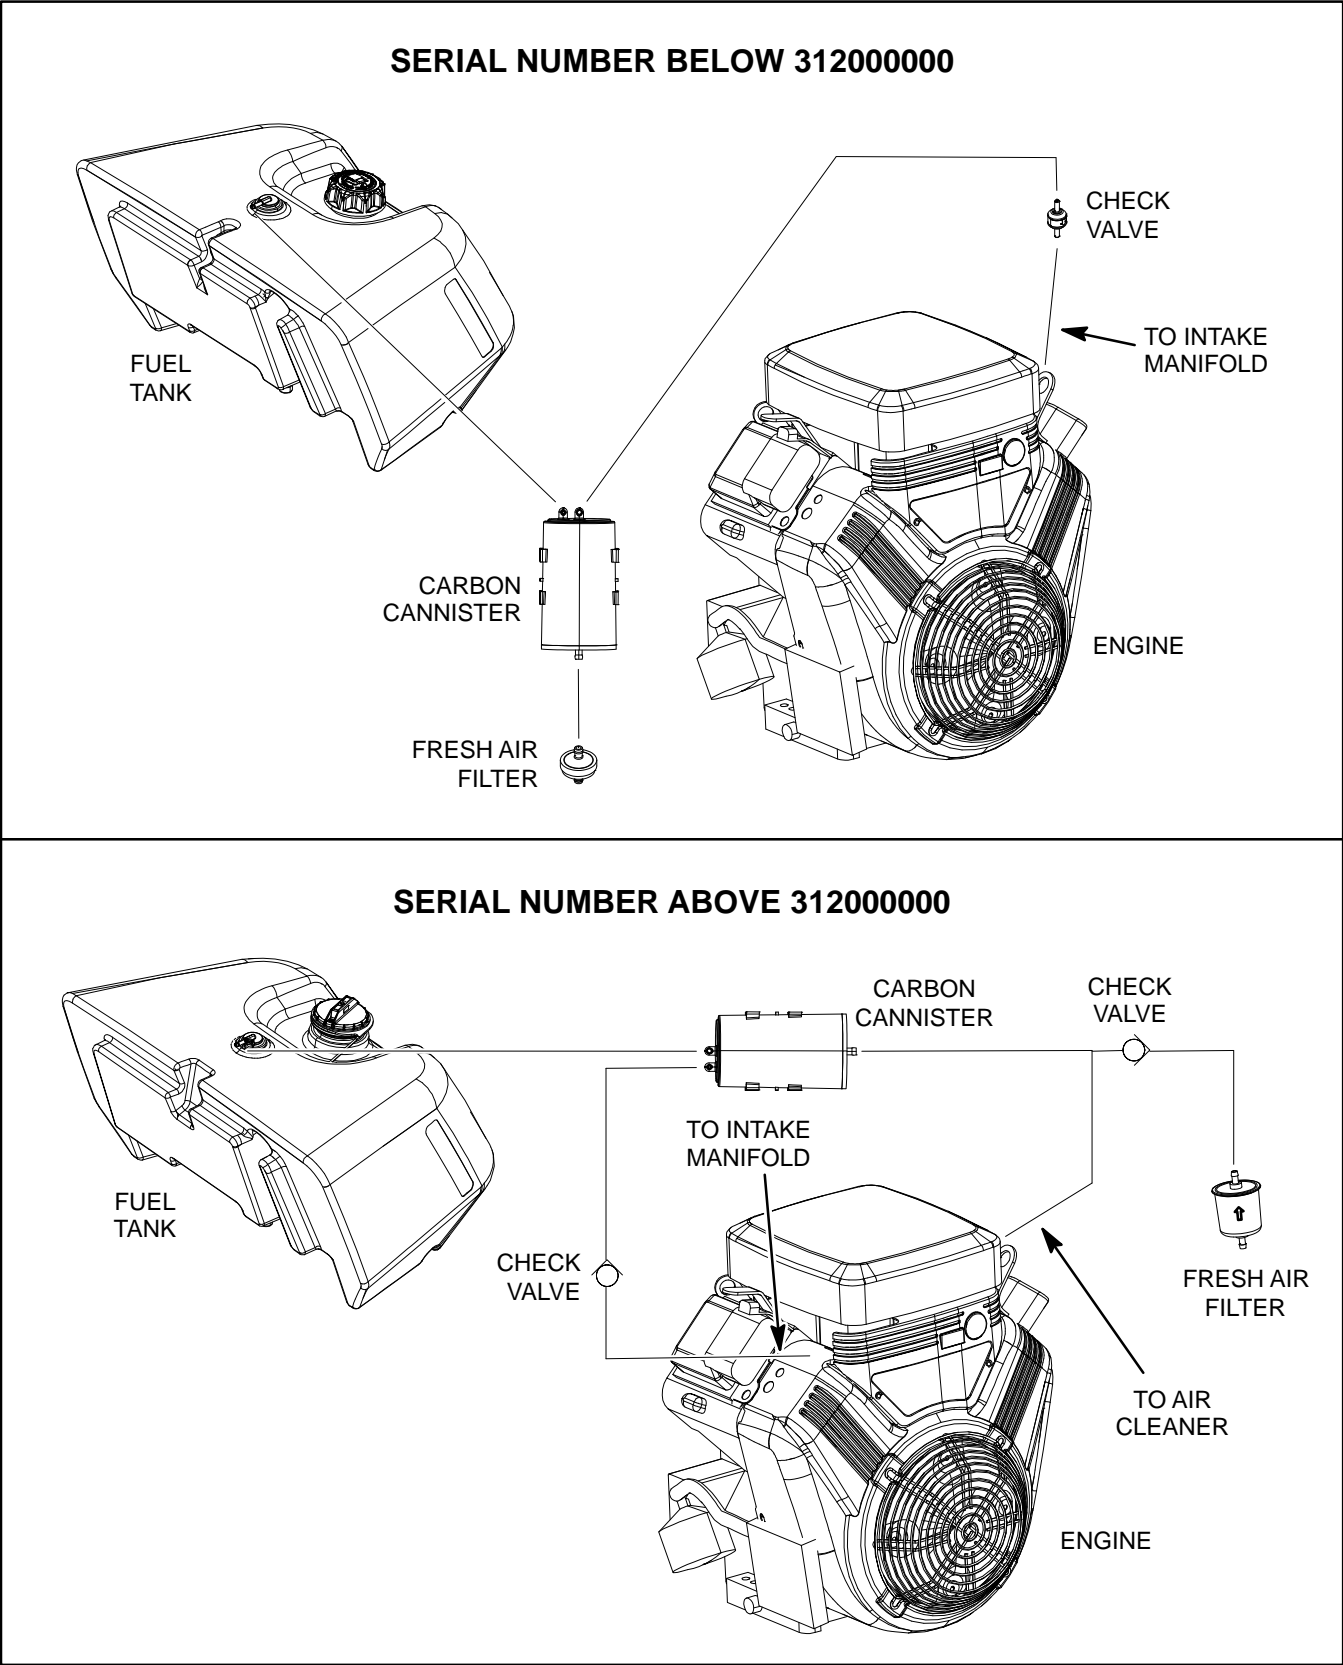

Figure 1
Components used in the evaporative control system on Greensmaster 3300 machines changed at serial number 312000000. Figure 1 illustrates the components used in the evaporative control system.
On machines with serial number above 312000000, the carbon canister is mounted between the hydraulic reservoir and leak detector tank. The evaporative system includes two (2) connections to the engine: one to the intake manifold and the second to the air cleaner base. Venting hose assemblies include a check valve in two (2) locations as shown in Figure 1.